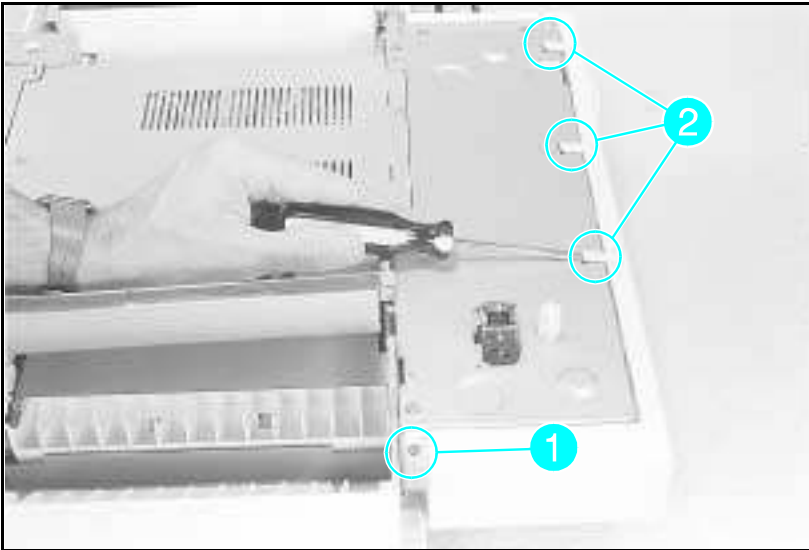

Figure A-6 Side Cover
- 2** Remove the (1) screw shown in Figure A-6, callout 1.
- 3** Release the (3) latch points with a flat screwdriver and rotate the cover downward (see Figure A-6, callout 2).